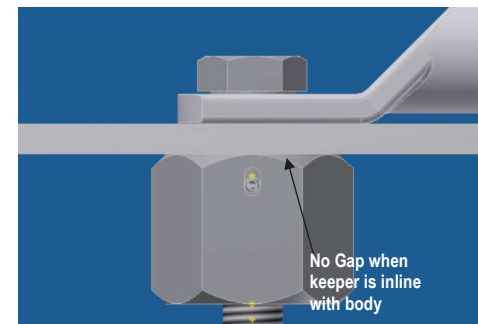

Figure 2
2. Tighten the CP-Nut until the keeper face is inline with the body (Figure 2).